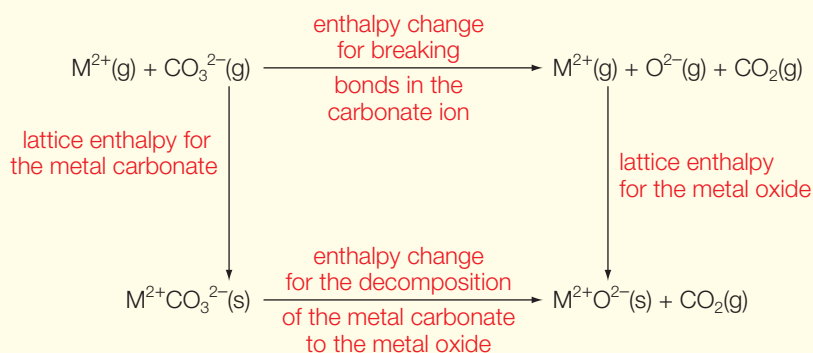

Figure 14.13 ◀
- Which of the enthalpy changes in Figure 14.13 are exothermic and which are endothermic?